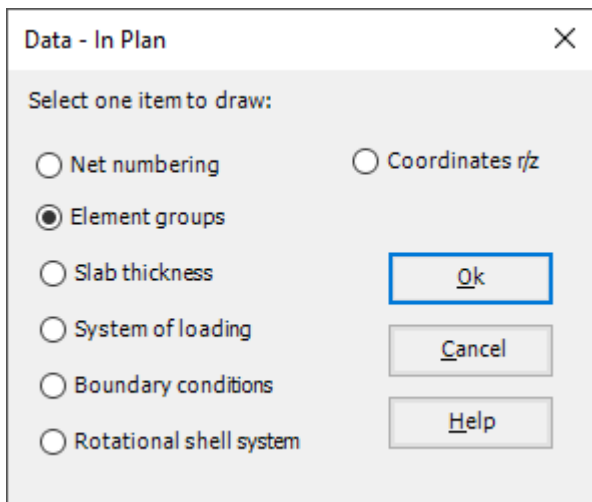

Figure 12.33 "Data – In Plan" option box
- Choose "Element groups" from "In Plan" command in "Data" menu. The following option box in Figure 12.33 appears